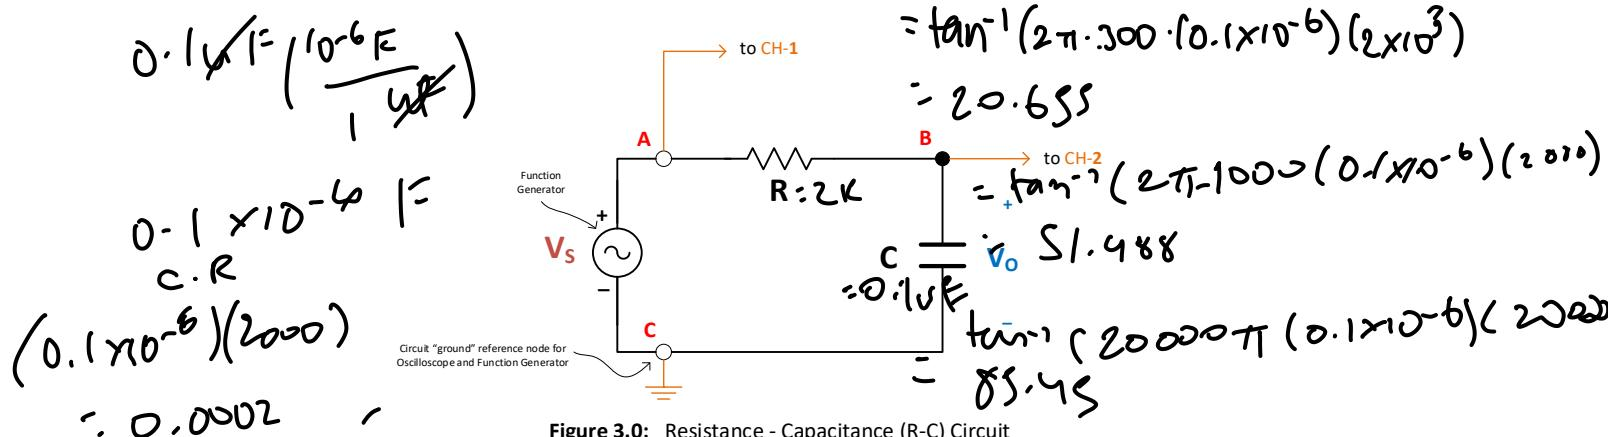

Figure 3.0: Resistance - Capacitance (R-C) Circuit
- (c) The R-C circuit in **Figure 3.0** introduces a **phase-shift** (Θ) between the output signal, V_o and the input signal source, V_s , the amount of phase-shift depends on the frequency, f of the input signal. This specific phase relationship can be expressed as: $\Theta^\circ = \tan^{-1}(2\pi f \cdot C \cdot R)$
Table 2.1: Theoretical phase-shift values of Figure 3.0 circuit
(f) Use **MultiSIM** to construct and simulate the circuit in **Figure 3.0**, with resistors $R = 2k\Omega$ and $C = 0.1\mu F$. Ensure that *node C* of the circuit is used as the *common ground* for all equipment.
Table 3.2: MultiSIM measured phase-shift values of Figure 3.0 circuit
(c) AC Phase Measurement on the Simple R-C circuit (Figure 3.0)
1. Construct the circuit of **Figure 3.0** on your breadboard using the resistor value of $\mathbf{R} = 2\text{k}\Omega$ and the capacitor value of $\mathbf{C} = 0.1\mu\text{F}$ from your Kit components. Ensure that *node C* of the circuit is used as the *common ground* for all equipment connections.
Table 4.2: In-Lab measurement results of Figure 3.0 circuit